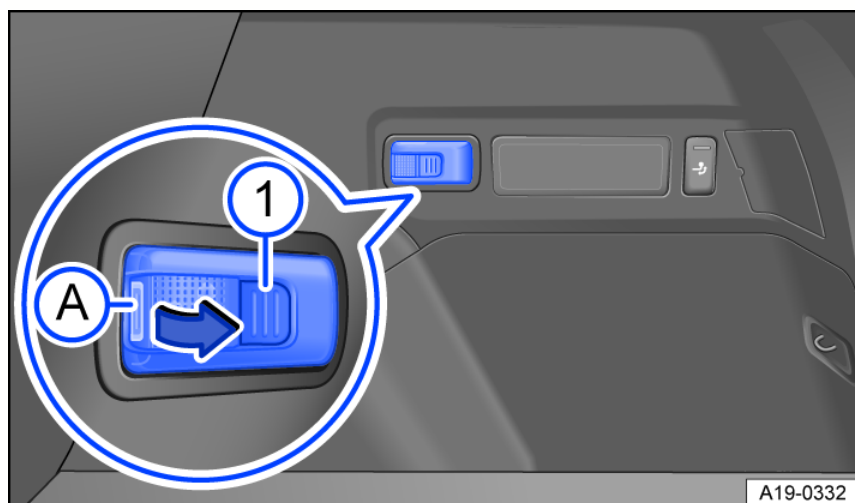

Fig. 176 In the luggage compartment (right-side): Removable luggage compartment light.
Depending on the vehicle equipment, there is a removable light in a bracket in the luggage compartment *fig. 176*.
1. Take hold of the removable luggage compartment light in the area *fig. 176*.
1. Press the button *fig. 176*.
2. Depending on the design, press the button *fig. 176* again to set the brightness to 50%.
3. Press the button *fig. 176* again to switch off the removable luggage compartment light.
1. Switch off the removable luggage compartment light and push it into the bracket in the opposite direction to the arrow *fig. 176*.
2. Remove the battery cover with a thin object below the area fig. 176.